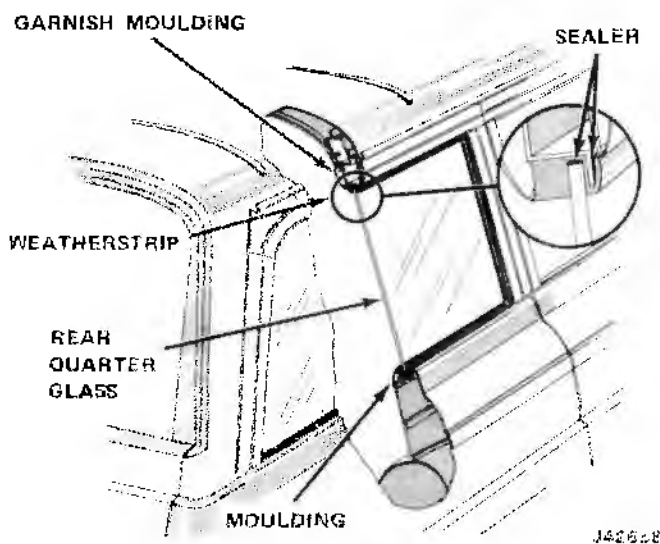

Fig. 15-5 Rear Quarter Window - Wagoneer
- (1) Remove interior garnish moldings from around window and break seal loose between weatherstrip and body panels.
- (2) Push glass toward inside of vehicle.
- (3) Remove weatherstrip from around glass and clean old sealer from glass cavity and flange cavity.
- (4) Before installing glass in weatherstrip, apply a 3/16-inch bead of medium bodied sealer in glass cavity completely around weatherstrip using a pressure type applicator (fig. 15-5).
- (5) With glass installed in weatherstrip and before installing glass and weatherstrip into opening, insert a 1/4-inch cord completely around weatherstrip in flange cavity.